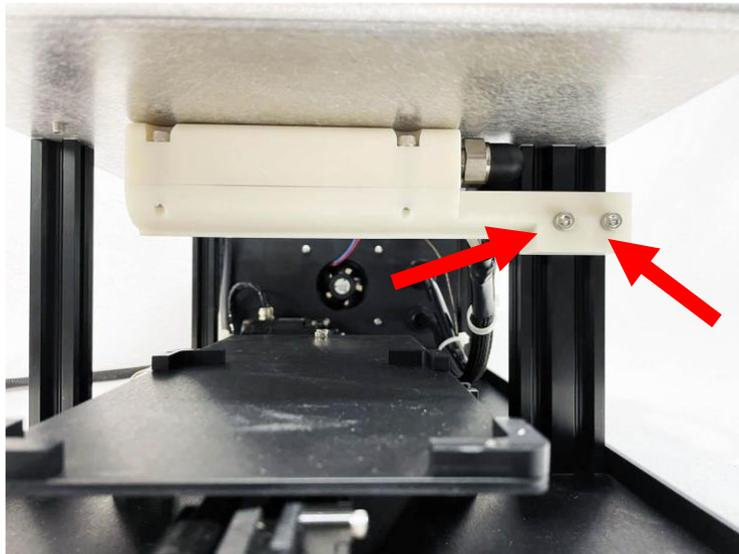

Figure 68 – Plasma Module – Plasma Generator Screws
- d. Use a 3/16” allen key to remove the two screws shown in *Figure 68* to remove the Plasma Generator.